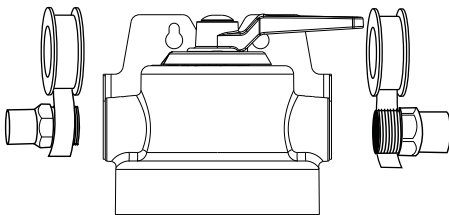

Figure 1
3. Wrap Plumbers tape (2 $\frac{1}{2}$  wraps) around the 3/4" MNPT x 3/4" fitting for copper pipe in a clockwise direction (see Figure 1) and firmly assemble into filter head. Do not use pipe sealant (dope), as solvents in some types of pipe dope may cause damage to plastic fittings. Do not overtighten, overtightening can cause damage to filter head.